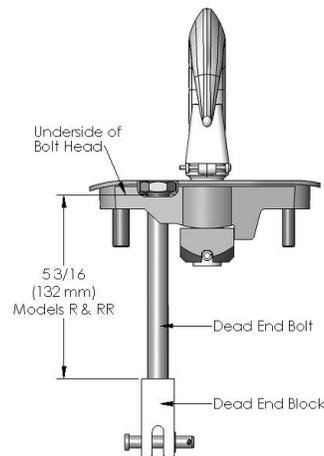

Figure 3. Double Reeved Suspension Assembly
Remove the hook suspension, (2) suspension screws, (1) dead end pin, (1) washer, and (1) cotter pin from the packaging. It should be noted that the suspension includes a dead end bolt and block for supporting the dead end of the load chain as shown in Figure 3. Place the suspension assembly into the recess on top of the hoist.